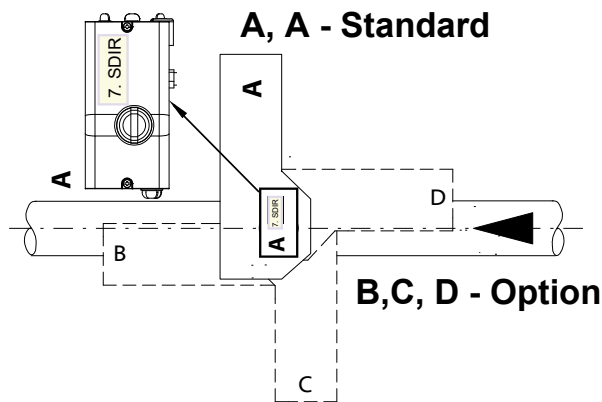

Fig.4-3a Mounting positions of the Actuator
Installation position A, A (→ Fig. 4-3a) - perpendicular to the pipeline is the standard mounting for both Actuators and Positioners. Mounting positions B, C, D for Actuator (→ Fig. 4-3a) and the Positioner → Fig. 4-3ab) can be selected depending on the installation option. The Valve and Actuators mounting position relative the horizontal line. A mounting position with the Valve shaft pointing upwards (vertical) is often considered to be standard. If the media contains sticky or other difficult impurities, that tend to collect at the bottom of the pipe, it is advised to mount the valve with an angle of vertical. In this way it is avoided that the impurities collect and eventually clog and glue the bottom bearing of the valve shaft.
Fig.4-3ab Mounting positions of the Positioner
5. Place the actuator with the bracket (→ Fig.4-2/5) in the required position (A, B, C or D) (→ Fig.4-3a). on the shaft of the valve and fix the unit with the aid of the bolts. (→ Fig.4-2/6).